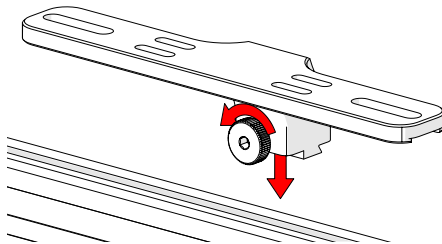

Fig. 84 - Loosen knob and mount to dovetail groove
1. Loosen the knob and align the dovetail nut with the dovetail groove (Fig. 84).